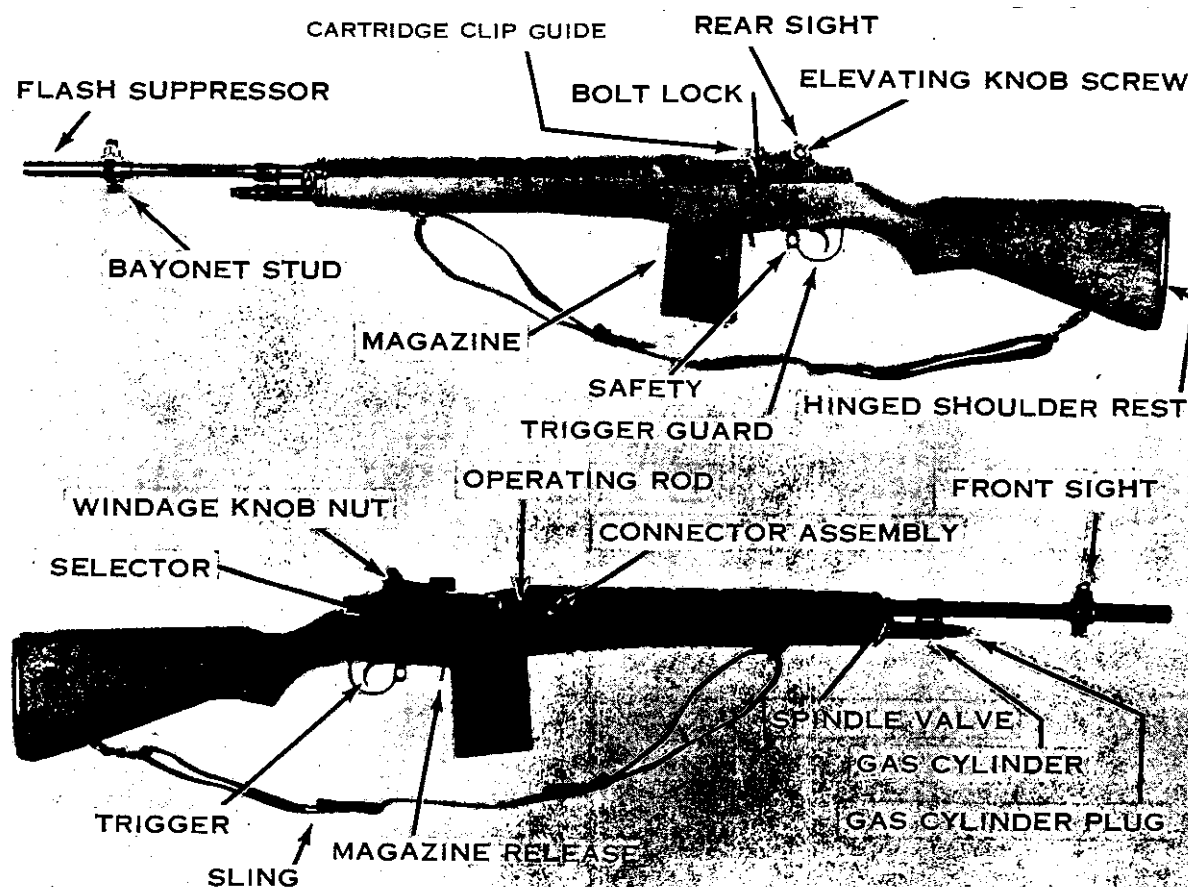

Figure 1. The M14 rifle.
- (1) The U.S. rifle, 7.62mm, M14 (fig. 1) is a light-weight, air-cooled, gas-operated, magazine-fed, shoulder weapon. It is designed primarily for semiautomatic fire.